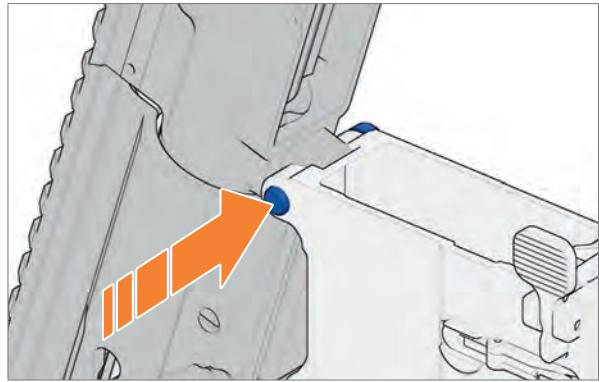

Fig. 92: Push in front locking pin
4. Push front locking pin in to the right and pull out as far as disassembly position (Fig. 92).